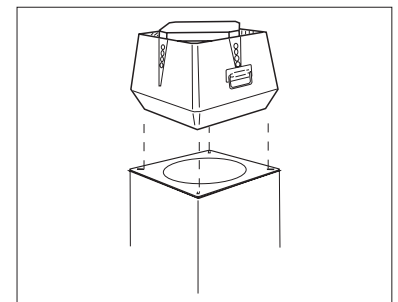

Fig. 5
- If the fan is installed on a curb cap, secure the roof curb with self-tapping sheet metal screws (see fig. 5).